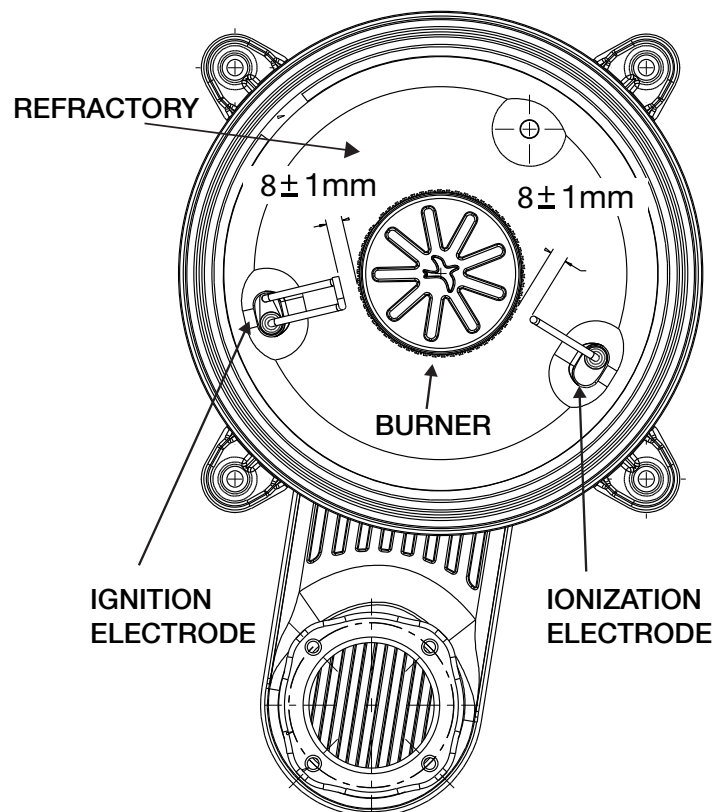

Figure 14.5: Burner Assembly Specifications
3. Once the combustion chamber has cooled, remove the four (4) nuts securing the burner assembly to the heat exchanger. Remove the assembly (burner door, fan and gas valve) – be careful not to damage the refractory disc located behind the burner door. Replace refractory if it is damaged. (Fig. 14.5)